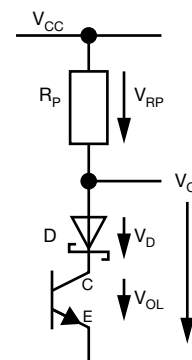

Fig. 3 - Voltage Divider
When the serial data line (SDA) is pulled down to the logic “L” stage, a voltage divider is formed by the pull-up resistor (R_P), Schottky diode (D), and the internal phototransistor C-E junction. The output voltage (V_O) is the sum of the Schottky diode voltage drop (V_D) and the voltage drop of the phototransistor output (V_{OL}), as shown in Fig. 3.